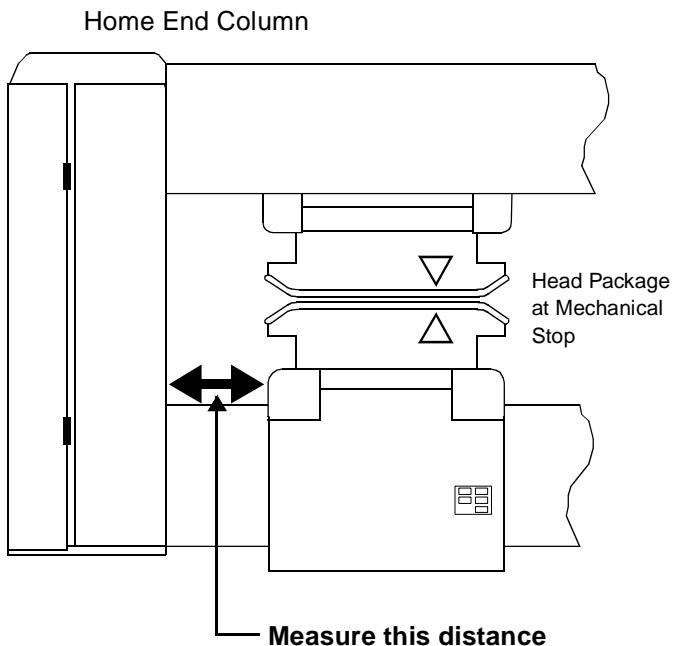

Figure 5-7 Head Position Calibration Measurement
7. Measure the distance from the home end column to the edge of the carriage wrap-around assembly as shown in Figure 5-7.